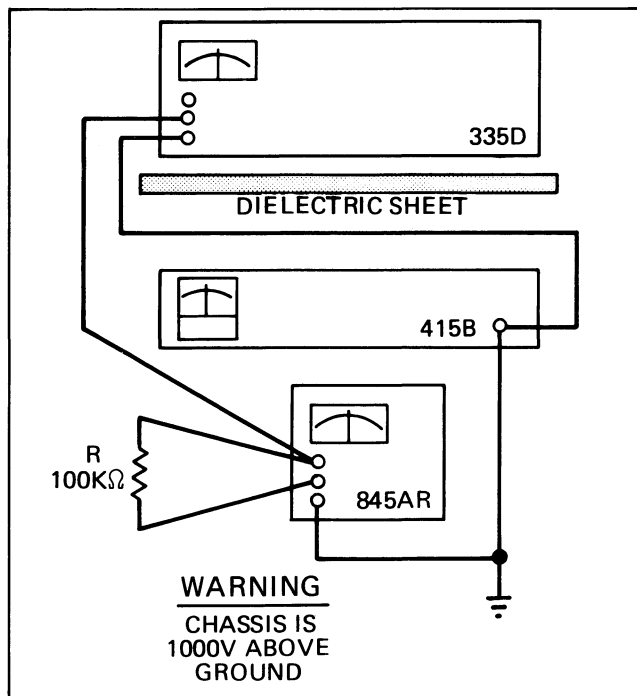

Figure 4-6. Leakage Resistance Test Connections
1. Disconnect the Model 335D under test from the power line. Using teflon coated leads, connect the 335D to a Model 415B Fluke Programmable/HV Power Supply and a Model 845AR Fluke High Impedance Voltmeter/Null Detector as illustrated in Figure 4-6.